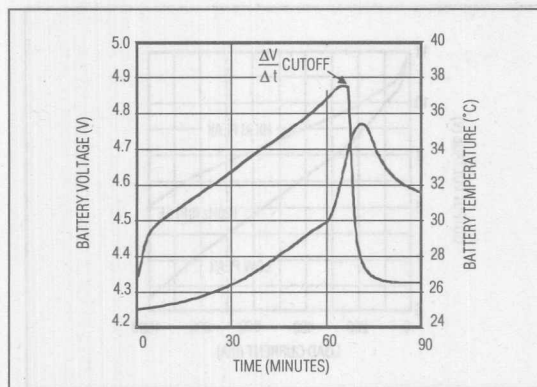

Figure 12. 3 NiMH Cells Charged with MAX712
Figures 12 and 13 show the results of charging 3 AA 1000mAh NiMH batteries from Gold Peak (part no. GP1000AAH, GP Batteries (619) 438-2202) at a 1A rate using the MAX712 and MAX713, respectively. The *Typical Operating Circuit* is used with Figure 8a's thermistor configuration.